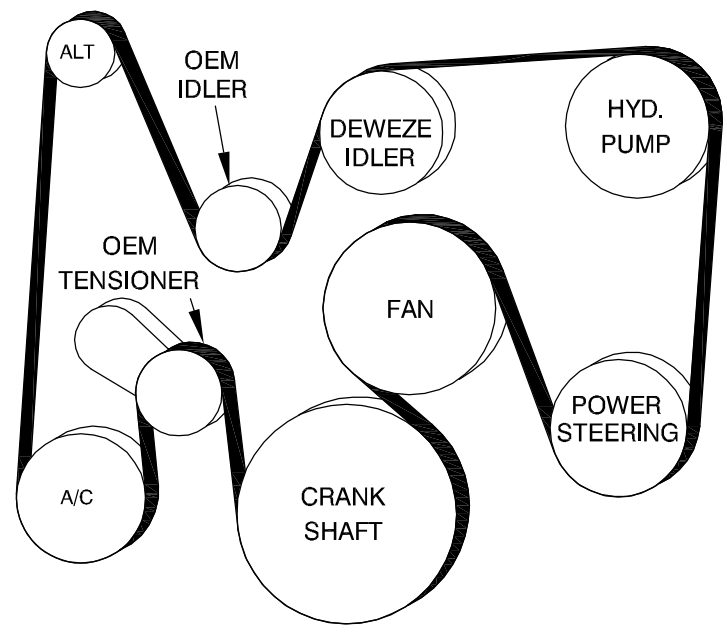

FIG. 2
7. Rotate the lower throttle body as shown in Fig. 2. Place the new gasket (6) on top of the lower throttle body and mount to the adapter ring using the OEM bolts (21). Put the condenser back into position, guiding the intercooler tube back onto the throttle body. Tie the transmission hoses to the power steering hoses for clearance using the cable ties (23) as in Fig. 7. Gently bend the steel hose ends slightly if needed to keep the hoses away.
9. Remove the OEM grooved idler pulley (15) from the front of the engine at Location C. In its place, mount the DewEze grooved idler pulley (7) with the idler bushing (2), M10 x 75 bolt (18) and a 3/8 flat washer (17).
10. Install DewEze belt (27) on the OEM pulleys. It is easier to access the pulleys when the shroud can be pulled away and before the pump is installed.